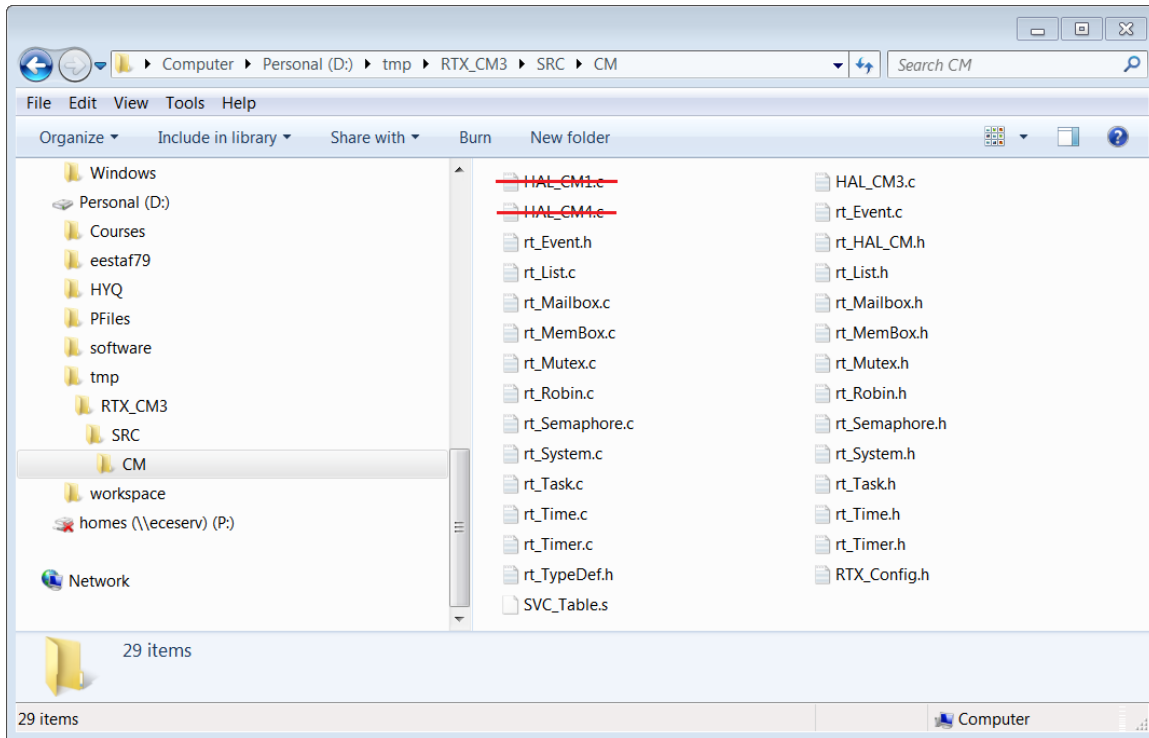

Figure 1.16: RTX Library Source Files for Cortex-M3
3. Start working on your own copy of the RTX library from now on. Remove `HAL_CM1.c` and `HAL_CM4.c` files that are under `RTX_CM3\SRC\CM` directory (see Figure 1.16). These two files are for Cortex-M1 and Cortex-M4 processors which is not the hardware in the lab.